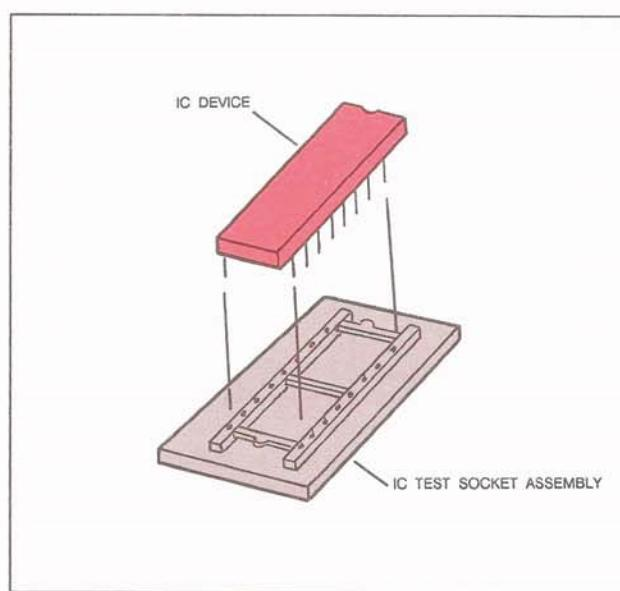

FIG. 17
18. Following the instructions given in the IC Handling Section on page 12 , insert IC U2 into the socket on the IC test socket assembly (See Fig. 17) as follows.
d. While holding the ends of the IC between your finger tips (WITHOUT TOUCHING THE PINS), position the IC over the socket so that the notched end is aligned with the small notch in the end of the socket, as illustrated in Fig. 17.